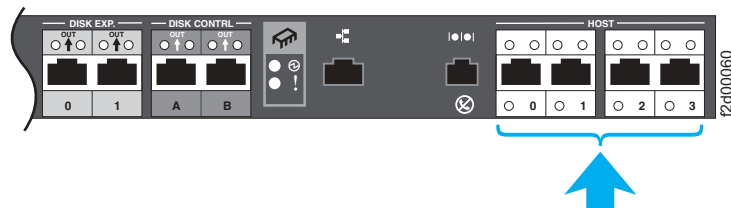

Figure 4. Connecting host system cables to processor cards
2. Connect the host system cables to the server enclosure processor card or to switches. Figure 4 shows the location on the processor cards where the host system cables connect.